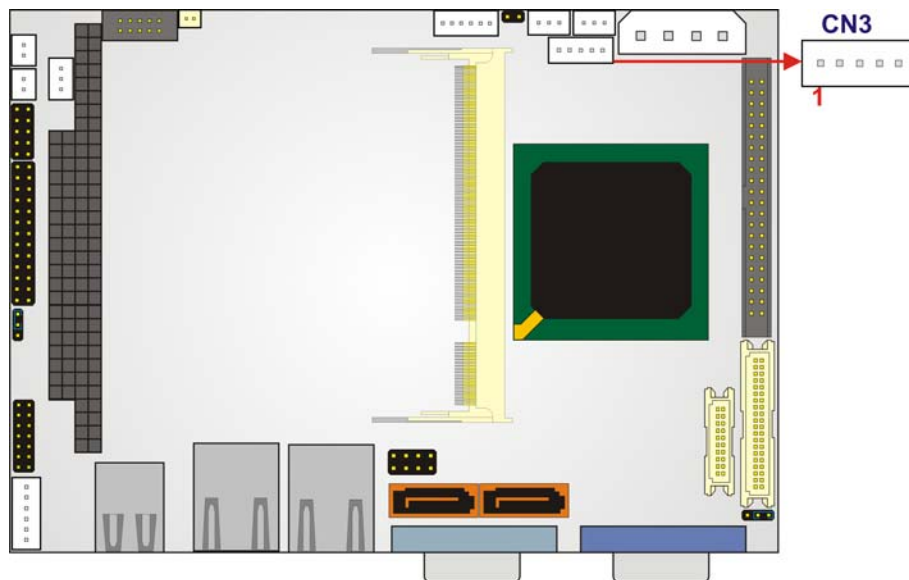

Figure 3-13: Inverter Connector Locations
**CN Location:** See Figure 3-13